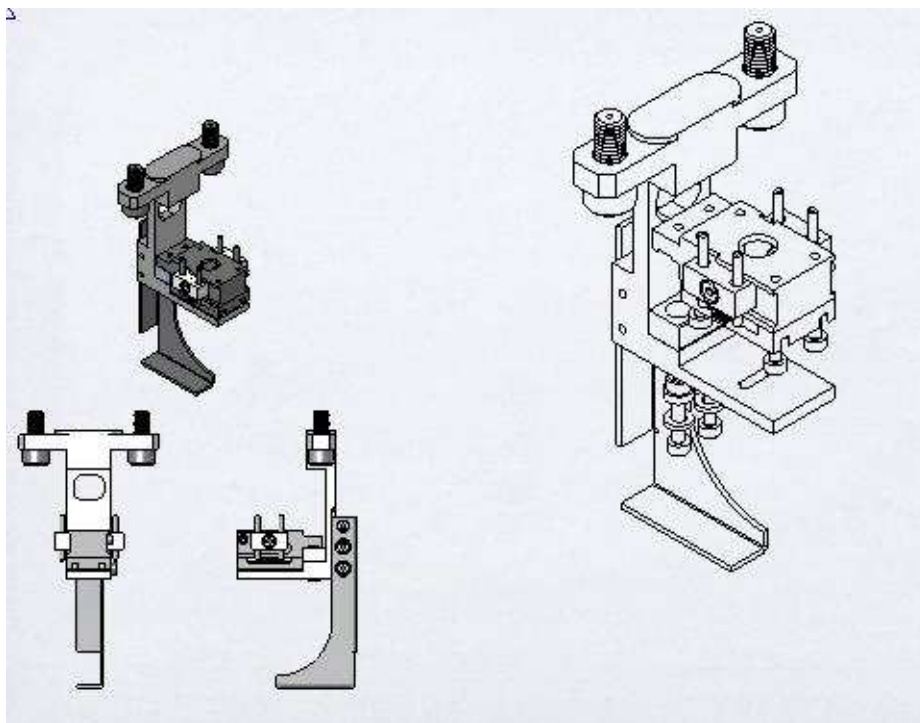
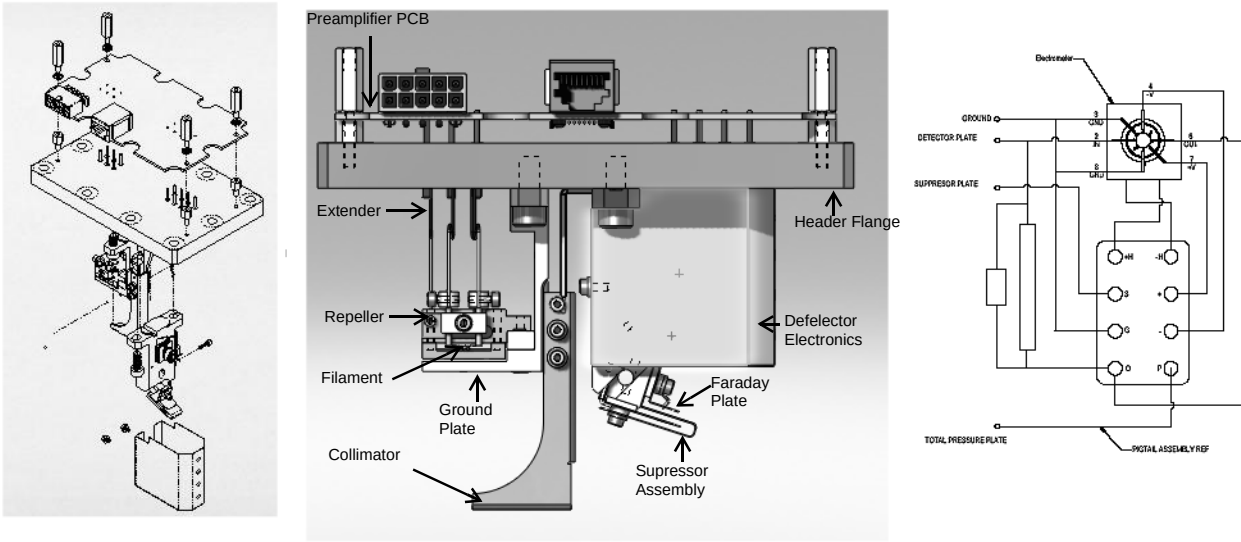
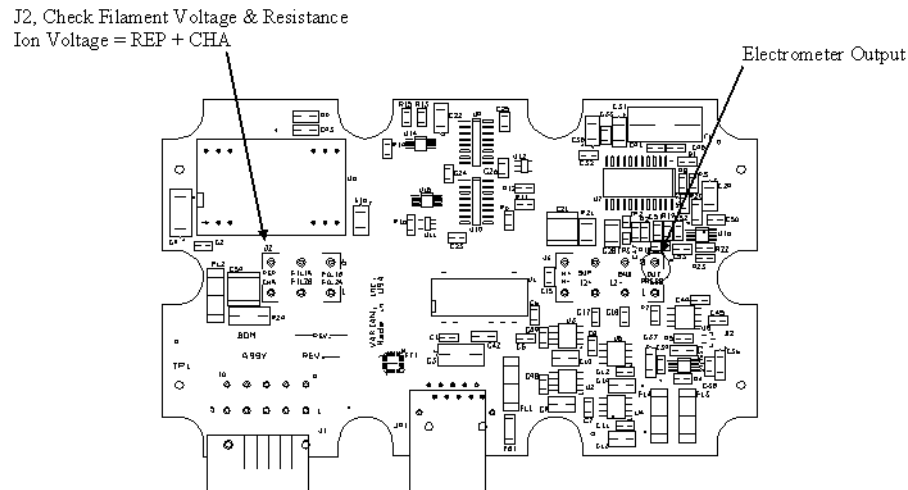
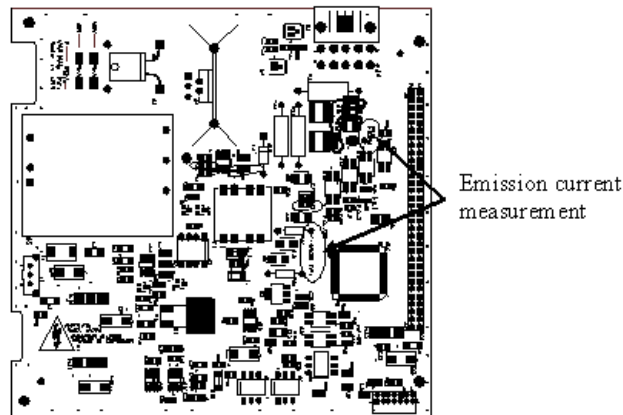

Figure C-1 Spectrometer (Ion Source Assembly)
Figure C-2 Spectrometer Header: Decomposition
Figure C-3 Pre-Amp Board - Measurement Points
Figure C-4 Ion Source Board - Measurement Points
- a. Disassemble the spectrometer header from the spectrometer body and inspect the total pressure plate (Figure C-1 and Figure C-2).
3. Pre-amp board failure (Figure C-2 and Figure C-3):
- ❑ Spectrometer - Pre Amp Board (Figure C-2 and Figure C-3 on page C-7): Measure the J2 connector filament resistance (with power off) (filament resistance < .5 Ohm). If filaments are open circuit, open the spectrometer and replace the filaments. See Section B.13 "Filament Replacement".
- ❑ Run a full calibration (Figure C-2 on page C-7 and Figure C-3 on page C-7) and after a successful pass, measure the voltage of the filament that is in use on the Pre-Amp board J2 connector (Spectrometer Header). The filament voltage should = 1.4 to 1.9 VDC with < 30 mV of noise (AC). If not, go to the *Manual Tuning* screen and adjust the *Emission Current* until the AC ripple is < 50 mV and the filament voltage is 1.4 to 1.9 VDC.
- a. Refer to step 2b for steps to measure filament resistance, ion voltage and filament voltage. Verify (Figure C-3 on page C-7 and Figure C-1 on page C-6):
- b. *Select Setup Menu > Manual Tuning* and note the *Emission Current* setting. Measure the emission current on the Ion Source board (Figure C-4 on page C-12) at test points EMISS T.P and TP101 FIL GND. The measured voltage should correspond to the noted reading (within +/- 10%). If emission current < .3 mA or zero, inspect the spectrometer for contamination (if necessary, replace the ion source). See Figure C-1 on page C-6 and Figure C-2 on page C-7.
- ☐ Switch filaments and re-calibrate and if the second filament fails, inspect the ion source and filaments and replace (Figure C-2 on page C-7). See Section B.13 "Filament Replacement".
- ☐ Inspect ion source and if contaminated (discoloration), clean ion source or replace (Figure C-1 on page C-6).
- ☐ On the J3 connector of the pre-amp board (Figure C-3 on page C-7), measure the voltage (with respect to ground) on the pin labeled OUT. The voltage should be in mV DC with no leak present.
- ☐ -11.00 VDC, remove the ion source voltage cable (J1 connector) on the pre amp board (Figure C-3 on page C-7) and re-measure the OUT pin voltage.
- b. Measure test points EMISS T.P and TP101 FIL GND (*Emission* current) on the Ion Source board (Figure C-4). The measured voltage should correspond to the observed reading in the *Manual Tuning* screen (within +/- 10%). If the measurement voltage (*Emission* current) is > 2.0 VDC and cannot be adjusted, replace the Ion Source board.
4. Pre-Amp board failure (Figure C-3 on page C-7):
- a. Open the *Manual Tuning* menu and adjust and measure the emission current (Figure C-4 on page C-12), to minimize the emission current to < 30 mVAC.